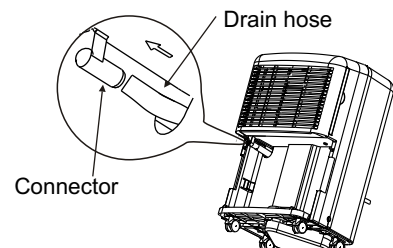

Fig.9
- Insert the water hose through the hole in the back of the unit and securely press it onto the connector on the front of the unit(see Fig.9). Then lead the water hose to the floor drain or a suitable drainage facility.